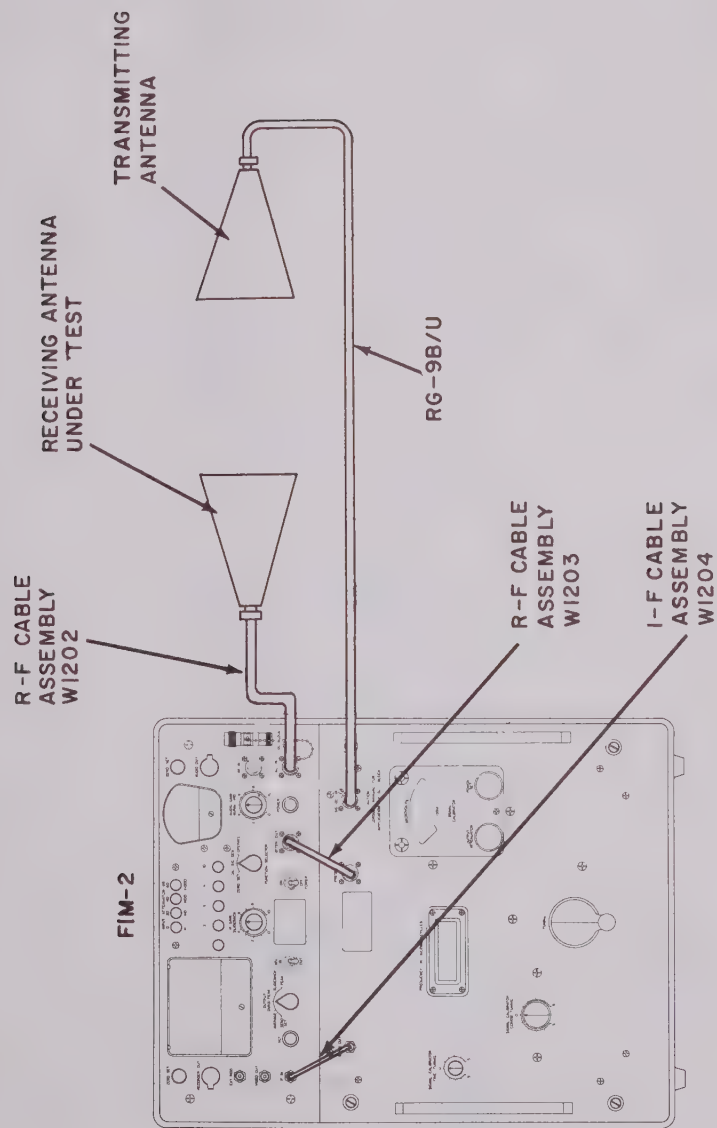

Figure 2-18. Antenna Pattern Measurements by the Direct Receiver Method, Equipment Set Up
a. Connect the antenna under test to the CAL IN jack, as shown in figure 2-18.
b. Connect a transmitting antenna to the SIG GEN OUT jack, as shown in figure 2-18.